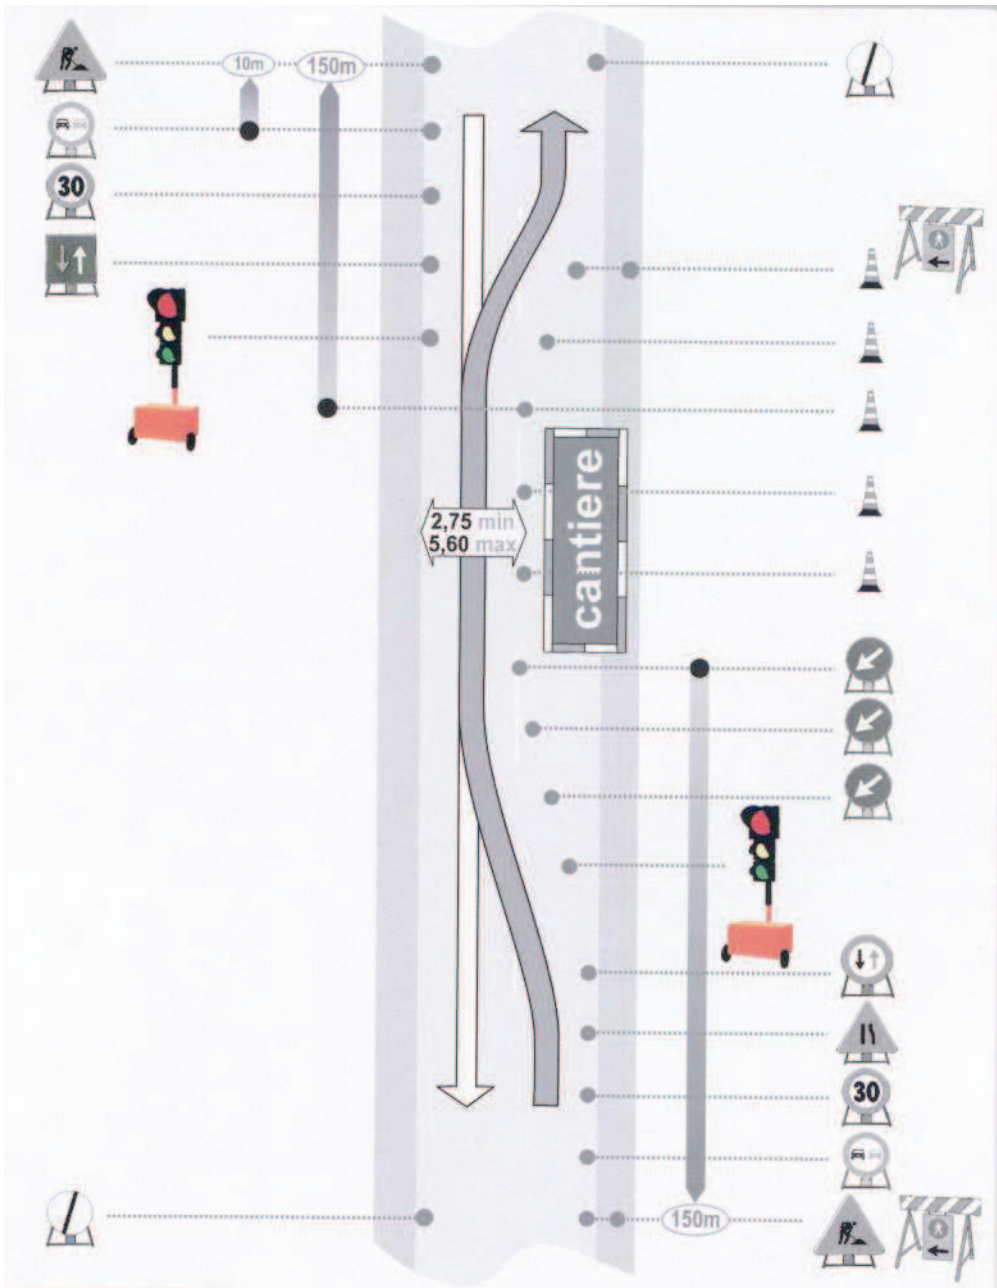

FIGURA 8B – CANTIERE CON SEMAFORI PER SENSO UNICO ALTERNATO. FIGURA OPERATIVA.
- FIGURA 8B CANTIERE CON SEMAFORI PER SENSO UNICO ALTERNATO. FIGURA OPERATIVA.